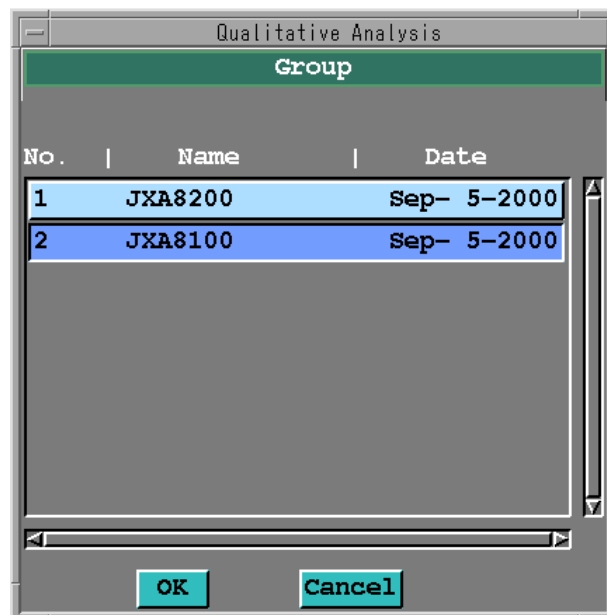

Fig. 20 Group window (for processing)
4. If you want to display and process data of another group, click on the **Group** button. The Group window that lists existing group names opens as shown in Fig. 20. Click on the desired group name and then click on the **OK** button. Repeat Step 3.